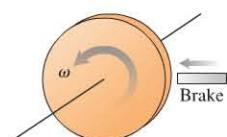

FIGURE P7.64
64. **III** The 2.0 kg, 30-cm-diameter disk in Figure P7.64 is spinning at 300 rpm. How much friction force must the brake apply to the rim to bring the disk to a halt in 3.0 s?